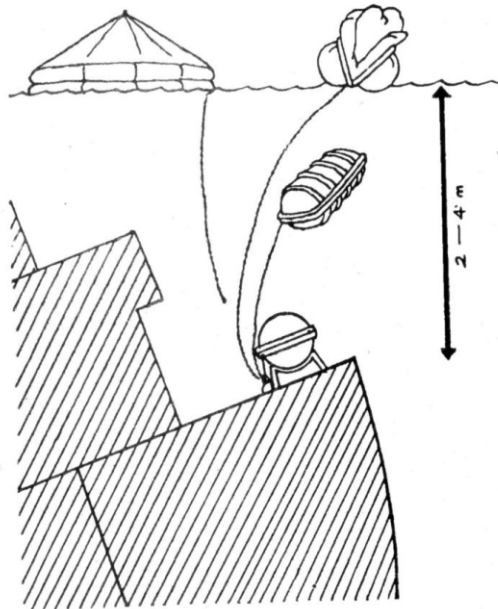

Fig 15 - Free Floating
5.4 Following the further sinking of the ship, the weak-link cord will be broken off and the liferaft will be disconnected with the sinking ship (Fig. 15).